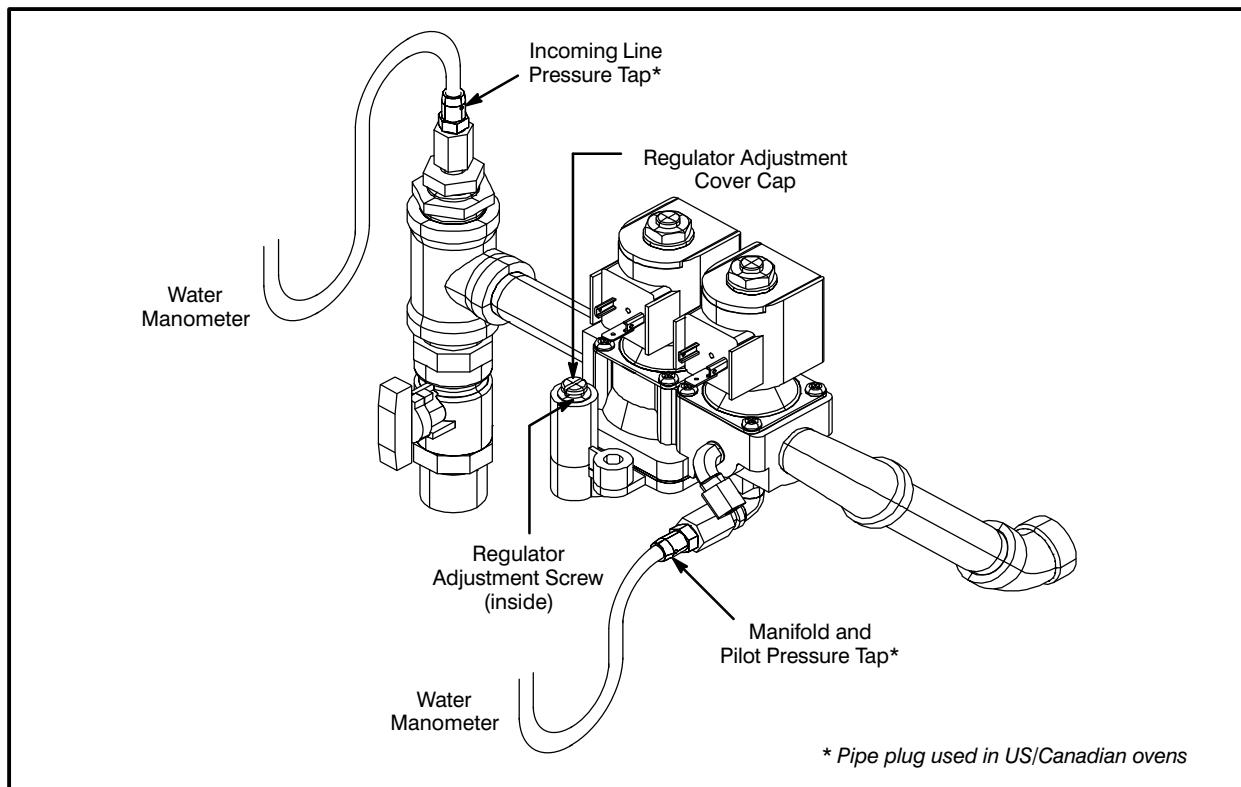

FIGURE 13
2. Check the pressure at the tap on the multi-function gas valve or at the tap on the tee fitting at the rear of the electrical box. See FIGURE 13.